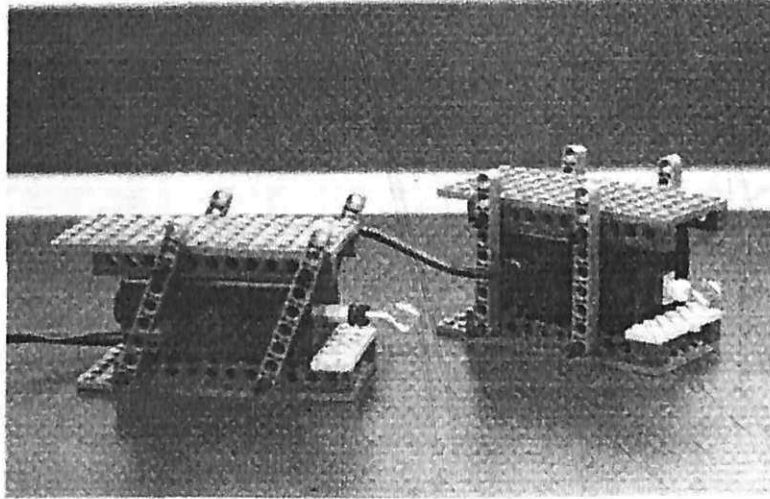

Figure 4.5.3 Vernier Force Sensors
The example of a single motor vehicle that can pull a force meter sled (Figure 4.5.3). To conduct this experiment, the robot only needs to drive straight for a specified amount of time. If you are conducting this investigation with an RCX, I recommend that you build a model with a gear ratio that reduces the speed of the unit while increasing its pulling force. This will help prevent your wheels from spinning and allow you to pull the sled at a constant speed.
1. Build a sled that can hold the force meter (see Figure 4.5.3).